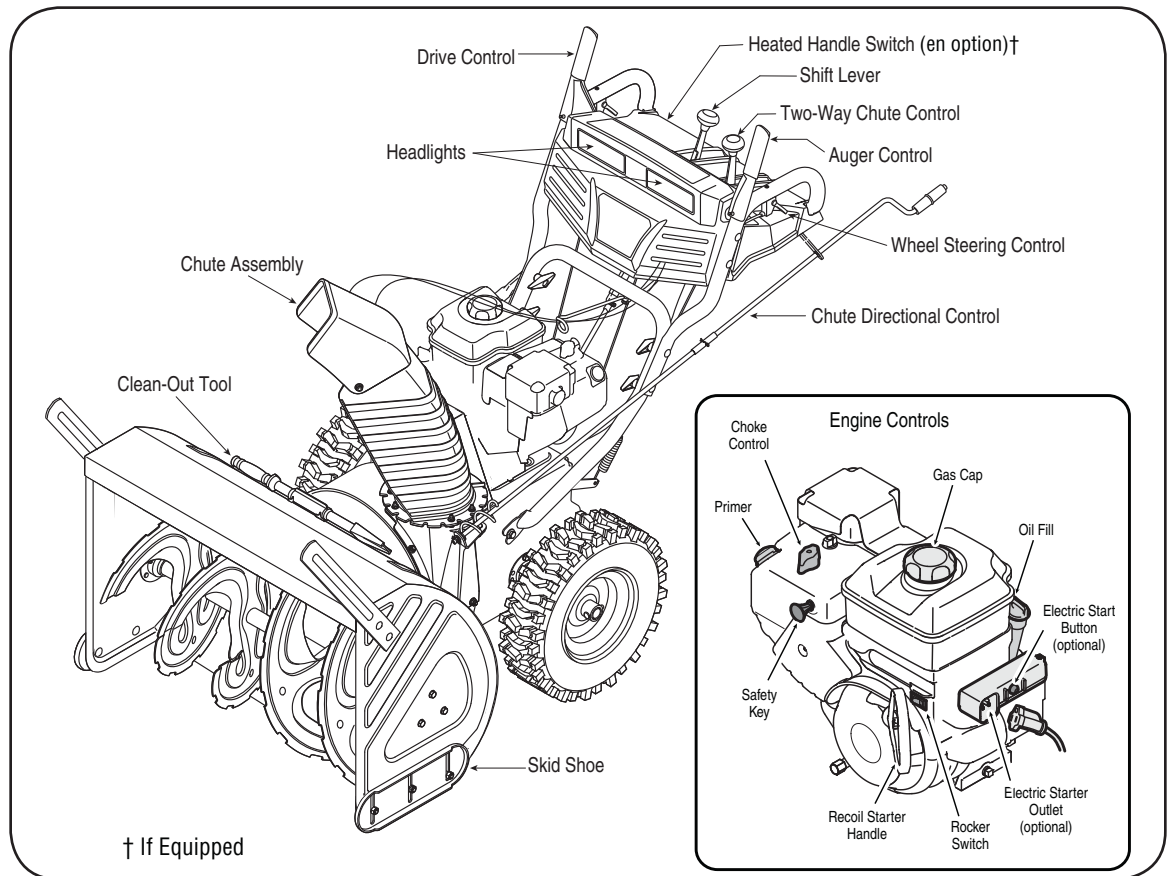

Figure 4-1
- Move the shift lever into sixth (6) position. See Figure 4-1.